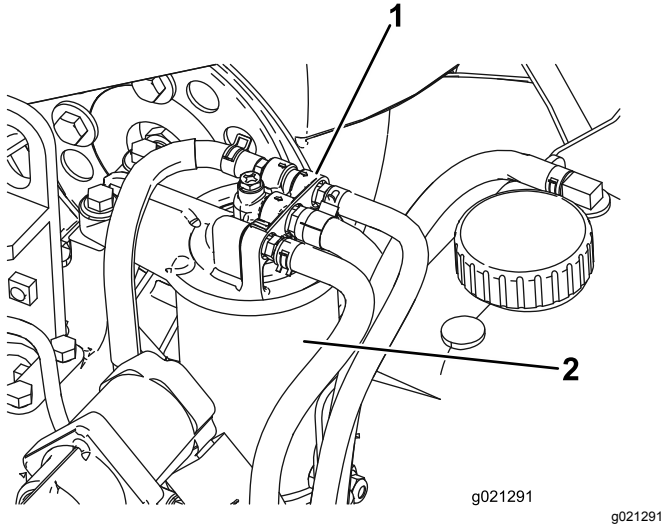

Figure 81
1. Clean the area around the fuel-filter head (Figure 81).
2. Remove the filter and clean the filter head mounting surface (Figure 81).